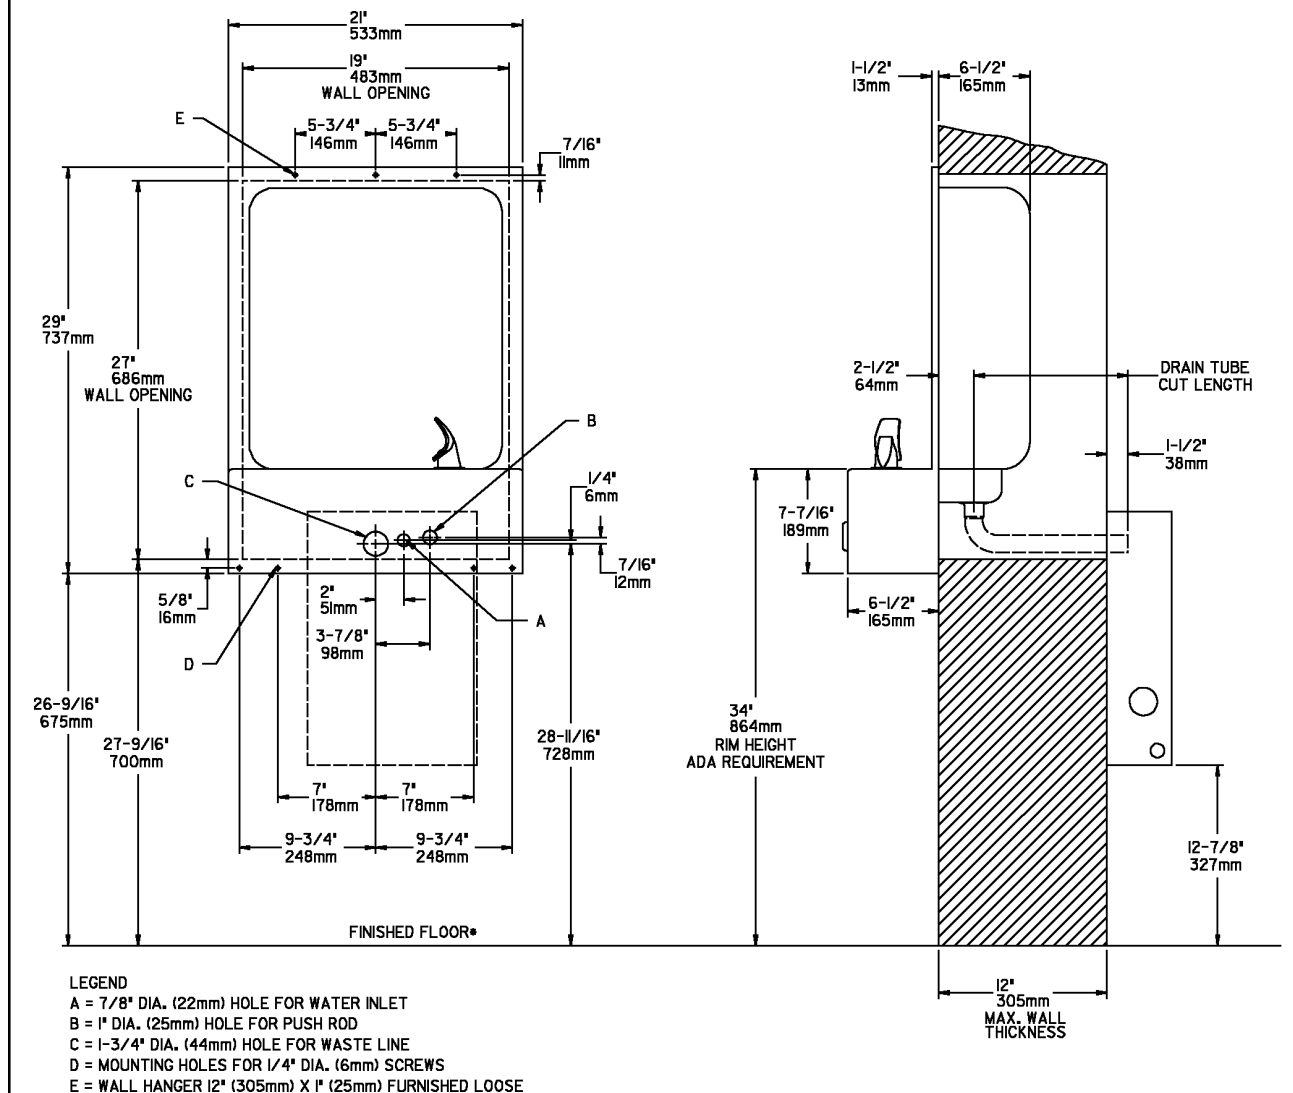

FIG. 3
1. Wall should already be framed for the fountain using dimensions shown in Fig. 3.
2. Rough-in wall that freeze resistant box is to be attached to - see box instructions.**3. Attach the hanger bracket to the wall as shown in Fig. 3 . Use bolts and flat washers (not provided). Tighten securely.****4. Cut drain tube** (supplied with freeze resistant box). Length of tube is measured from centerline of the fountain drain to the end of the tube. **Cut length is to be 1" (25mm) less than the wall thickness.****5. Attach push rod** (supplied with freeze resistant box) to push bar assy (item 6) with screw & clip (items 5 & 12). See Fig. 6.**6. Install fountain** by aligning drain tube and push rod with holes in freeze resistant box while hanging the fountain on the hanger bracket. Attach fountain to wall with screws (not provided).**7. Install freeze resistant box** and connect fountain water line to freeze resistant box - see box instructions. Install bottom cover.**8. Install a service stop (not provided)** and make water supply connection from the stop to the strainer in the freeze resistant box. **DO NOT SOLDER TUBES INSERTED INTO THE STRAINER AS DAMAGE TO THE O-RINGS MAY RESULT.**